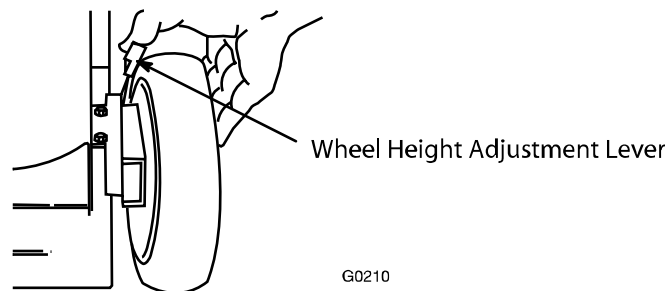

Figure 16
3. Set all four wheels in to the 2-1/2 in. (64 mm) cutting height (Fig 16).
1. Pull the wheel height adjustment lever toward the wheel (Fig. 16) and move it to the desired setting.